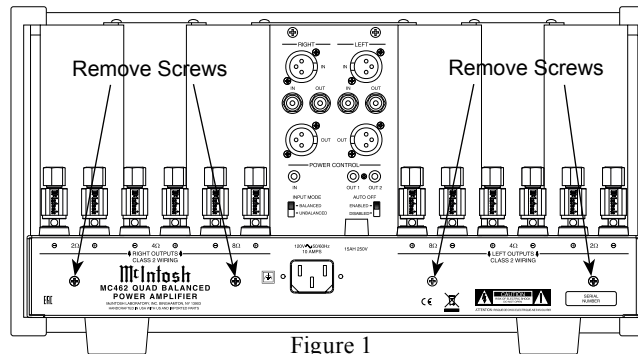

Figure 1
3. Using a suitable tool remove the four screws from the MC462 Rear Panel and temporarily place them in a safe place. Refer to figure 1.
- 5. Using a suitable tool remove the four screws from the MC462 Rear Panel and temporarily place them in a safe place. Refer to figure 1.